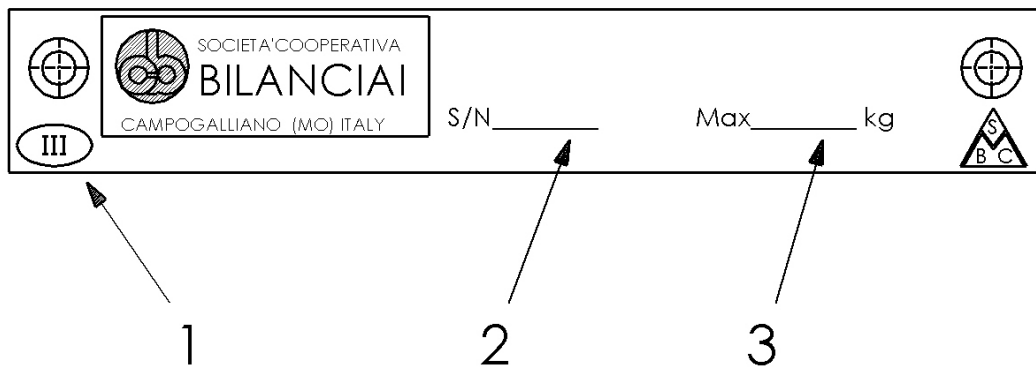

Figure 1.2.1 Identification Plate
1. Identification plate see fig. 1.2.1 page 13